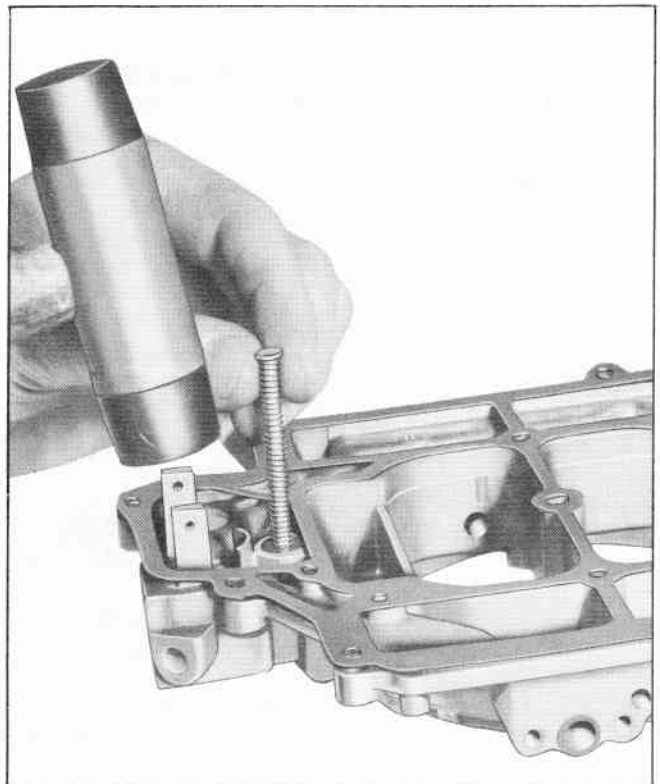

Fig. 12 Removing Power Piston Assembly
16. Remove power piston assembly from air horn by depressing piston stem and allowing it to snap free or by holding stem and tapping lightly on air horn with a non metallic object (Fig. 12).